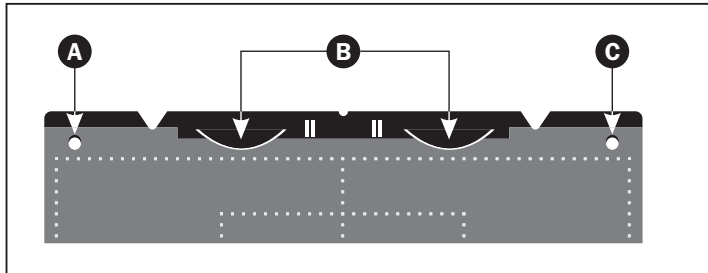

Figure 7: Reflective holder, top
- For the reflective holder (**L**), note the four metal pegs (the top two are shown as **A** and **C** in Figure 7 below); make sure that the clear plastic sheet is pressed all the way down over all four pegs. Note also the two curved tabs at the top of the holder (**B** in the figure below); the clear sheet must slip under each of these tabs, as shown.